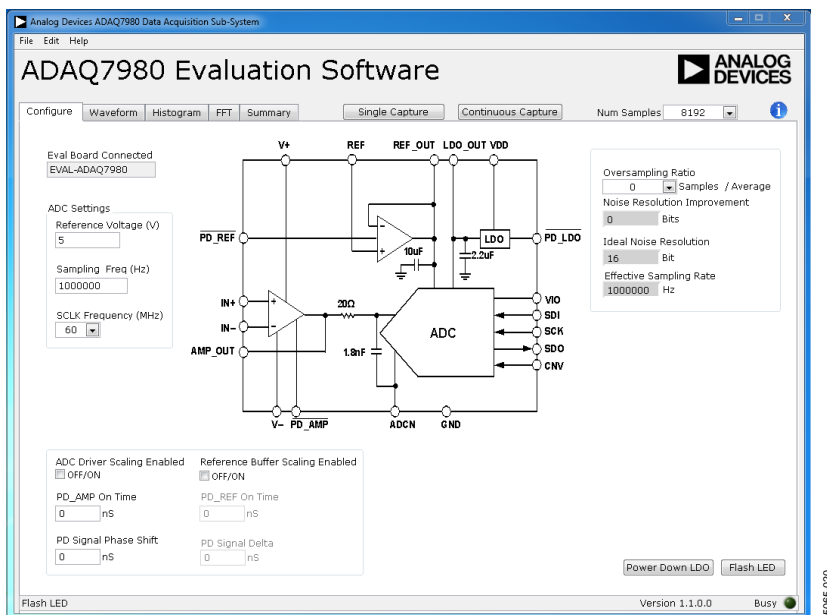

Figure 20. GUI Main Window
4. After the EVAL-ADAQ7980SDZ is detected, the main window of the software appears (see Figure 20), showing that the EVAL-ADAQ7980SDZ is connected.
The main window of the software is shown in Figure 20. The following sections describe the various controls that are accessible via this window.